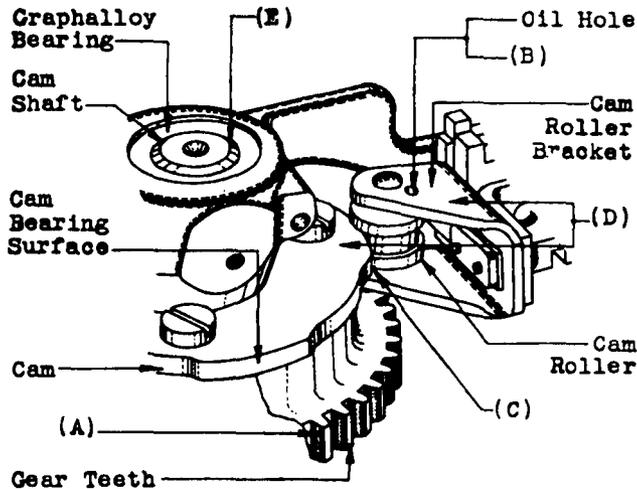

Fig. 3 - Cam and Roller Bracket Assembly
(a) Gear Teeth and Cam Bearing Surface - Figs. 3 (A) and 4 (A): The gear teeth and the cam bearing surface shall be adequately lubricated with 310-330P grease.
(b) Cam Roller Bearing - Fig. 3 (B): The cam roller bearing shall be adequately lubricated with KS-6438 oil. When lubrication is necessary, two drops of oil shall be applied.
(c) Recommended Lubrication Intervals: After turnover, it is recommended that initially, the parts listed in (a) and (b) above be lubricated at intervals of one month, with the exception of the cam roller bearings on interrupters equipped with flanged rollers as shown in Fig. 3 in which case the interval
2.04 Cam Roller Movement - Fig. 3 (C): The cam roller shall be free from bind and shall make at least a partial revolution when the operating bar moves through the operated position. Gauge by eye.
2.05 Cam Roller Bracket Position - Fig. 3 (D): The upper surface of the cam
2.07 Counter-shaft and Cam Shaft Movement - Figs. 3 (E) and 4 (B): The counter-shaft and the cam shaft shall not bind in their bearings. This shall be determined by